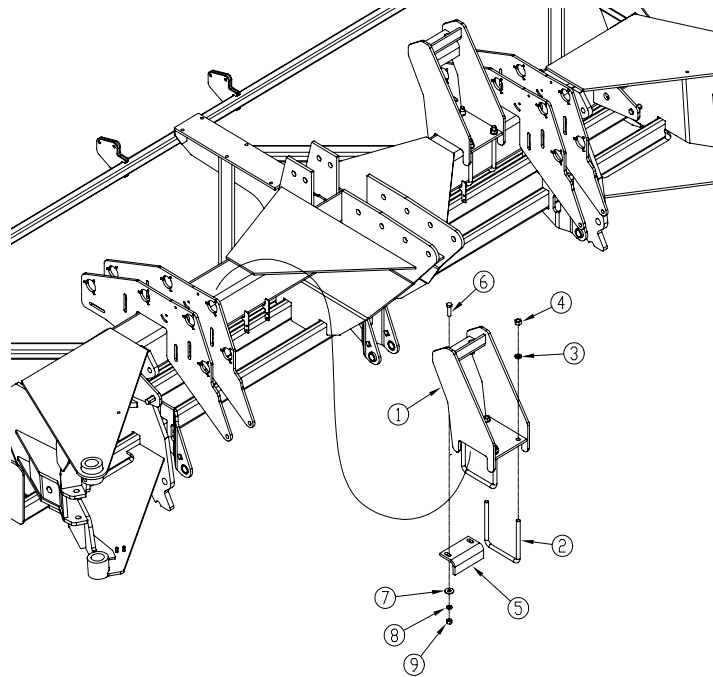

Figure 2
Refer to Figure 2
1. Install center weight brackets (1) on frame between the gauge wheel assembly and center of the drill. Orient as shown in figure 2 so that weights hang to the front. Do not place too close to the transmission sprockets so as to be able to set speeds. Use (2) 3/4-10X8 1/16X9 1/2 u-bolts, (3) 3/4 spring lock washers, and (4) 3/4-10 hex nuts.
2. Assemble weight bracket adjustable leg (5) to bottom of weight bracket (1) with (6) 5/8-11 X 2 1/4 bolts, (7) 5/8 USS flat washers, (8) 5/8 spring lock washers and (9) 5/8-11 hex nut. Adjust weight bracket leg to make weights hang level.